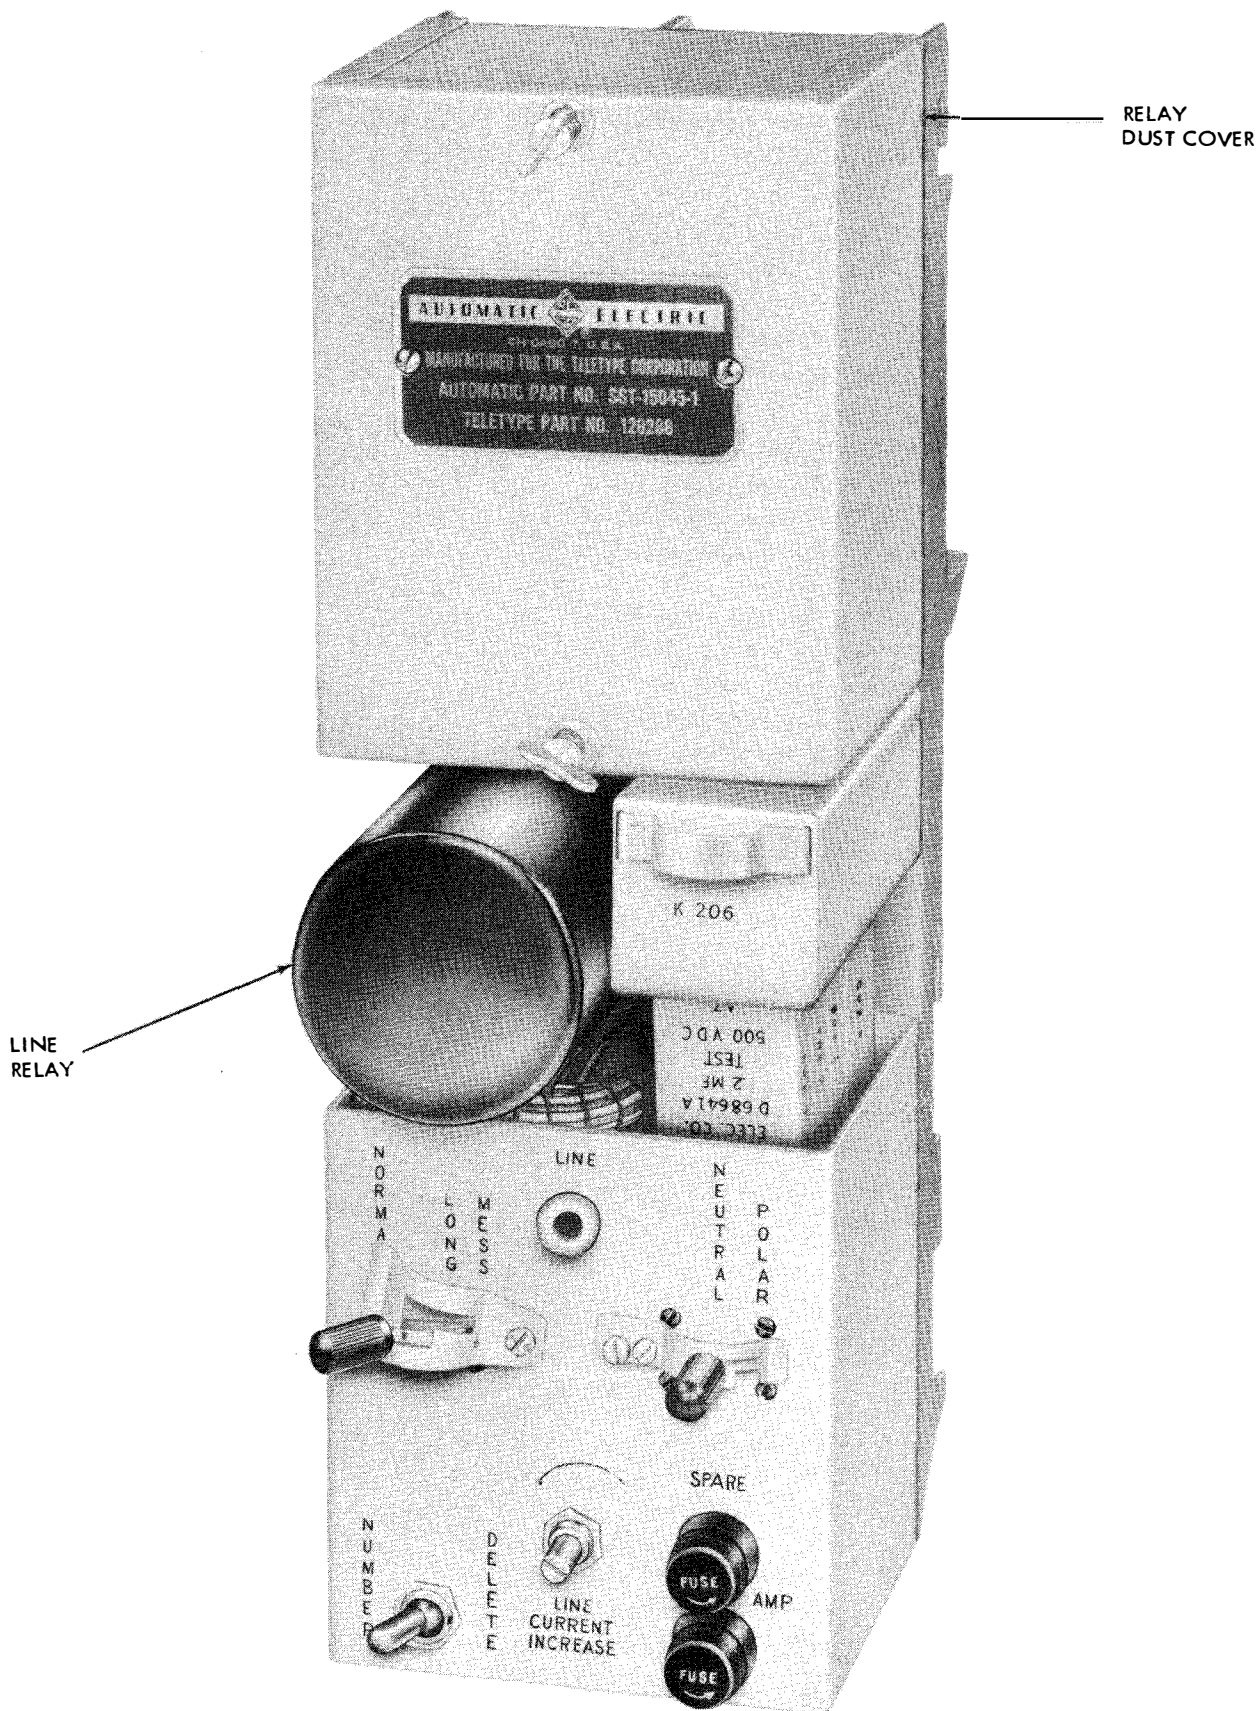

Figure 1-15. Control Panel SB-358/FGC, Rear View
l. CONTROL PANEL SB-358/FGC.—This control panel is used in Transmitter Groups OA-615/FGC-38, OA-618/FGC-38X, and OA-621/FGC-39 (see figure 1-15). The control panel mounts in Electrical Equipment Cabinet CY-1524/FGC on the relay rack for rear accessibility and contains the line relay and other relays necessary for operation of one line. The Transmitter Groups are equipped with a total of three control panels, one for each outgoing line.
(1) The Cable Assembly CX-2649/FGC is used to connect the Receiver Groups to the KEY receiver